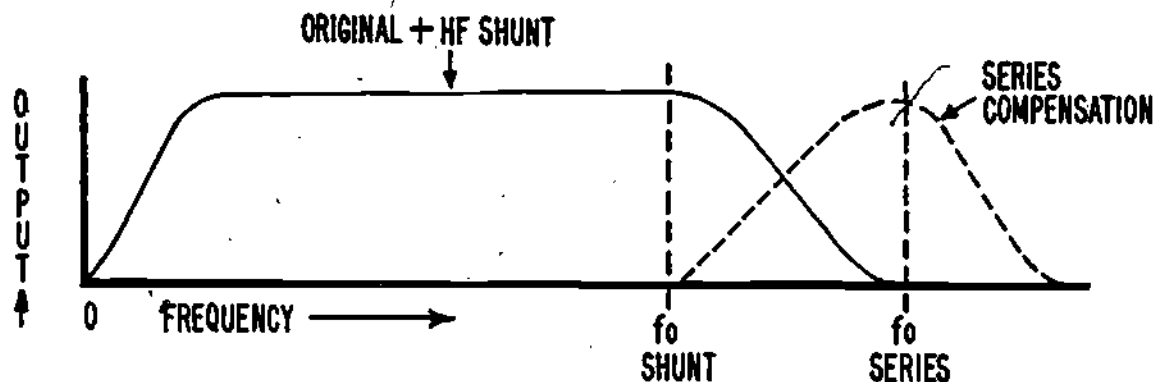

Figure 15
14. Figure 15 shows how series compensation further improves the video amplifier's frequency response.